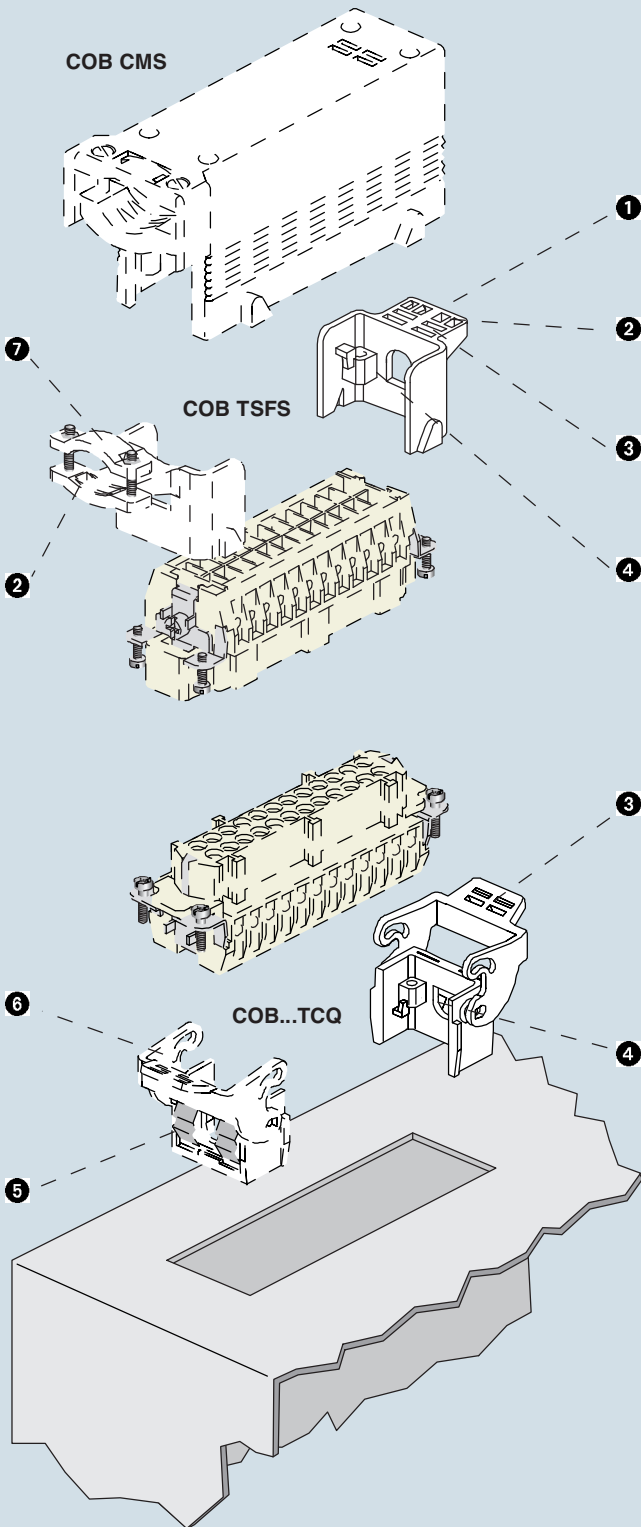

Figure 1:
- on panels with window snap fastening device (Figure 1)